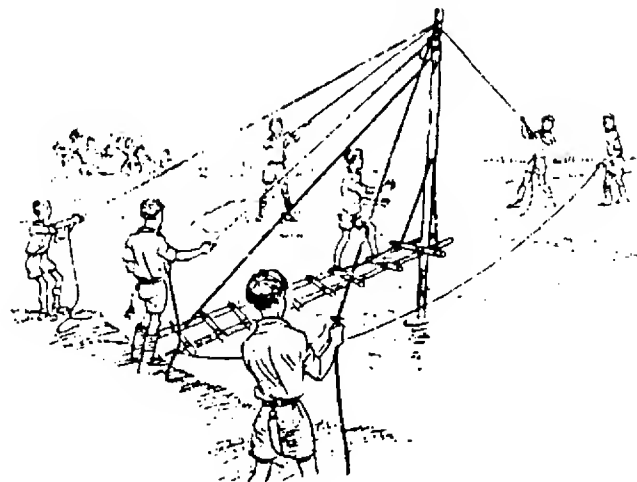

Figure 415 Revolving Derrick Bridge
38. Build a Revolving Derrick Bridge: This is shown in Figure 415.